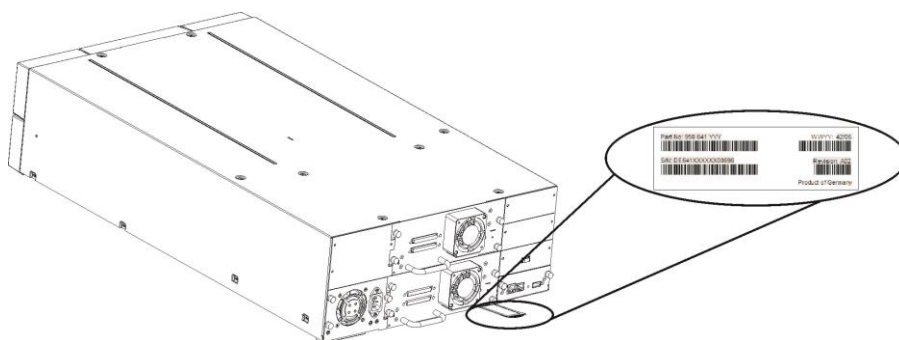

Figure 70 Product Label
4. Before you sending the defect Library back, please contact the service department to give the information's of the Part and Serial Numbers (see Figure 70).